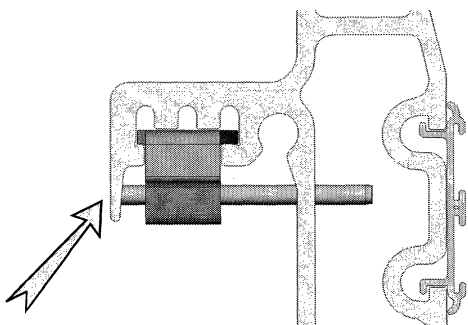

Fig. 6
3. Once hole is drilled, place pin into rail extrusion (Fig. 6). Make sure pin is flush with outside of extrusion (Fig. 7).